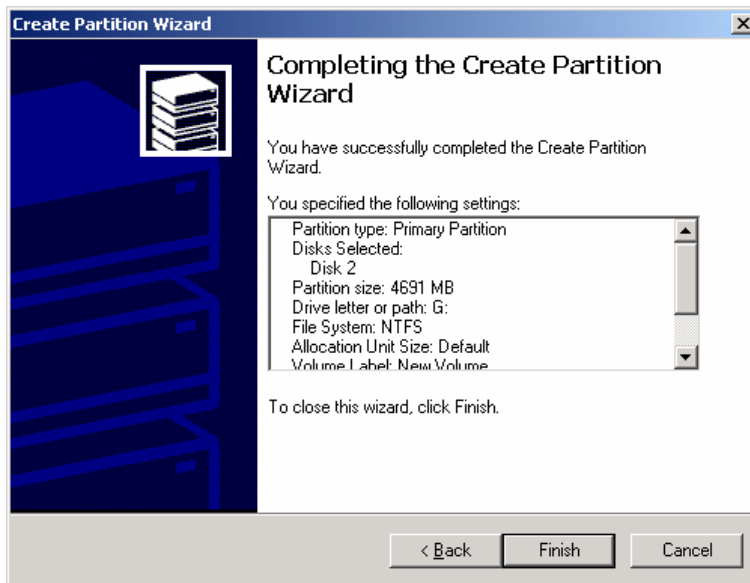

Figure 3.9 Verifying the Formatted Partition
9. When the format complete message displays, select **OK**, and then select **Finish** to close the Format panel. Verify that the Disk Manager main panel displays the correct file system (NTFS) for the formatted partition (see Figure 3.9).
Note: In the example in Figure 3.9, the name of the partition being formatted is G: